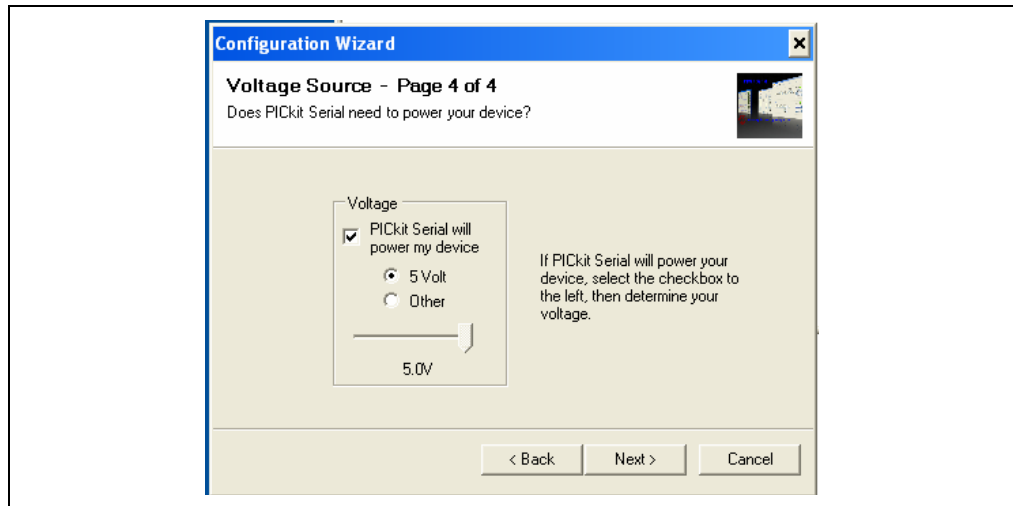

FIGURE 2-6: Voltage Source Selection Window.
- a) By choosing the “PICkit™ Serial will power my device” option and selecting the **5 Volt** radio button, as shown in Figure 2-6, the MCP3421/2/5 SOT-23-6 Evaluation Board will be powered by the 5V DC output of the PICkit™ Serial Analyzer through the R3 0Ω resistor/jumper.